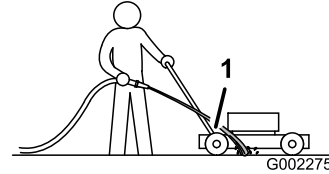

Figure 27
3. Hold the running garden hose at handle level and direct the water to flow on the ground just in front of the right rear wheel (Figure 27).